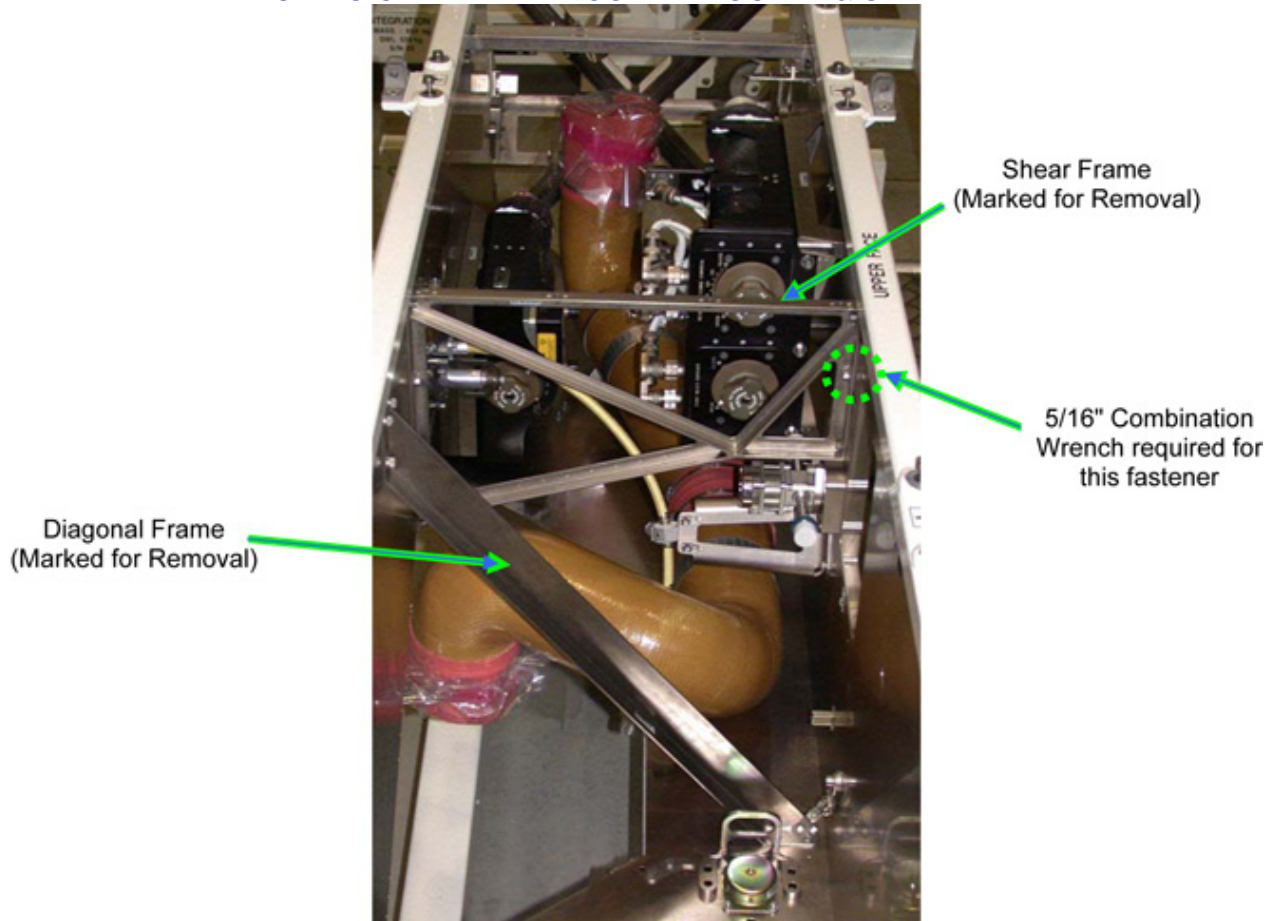

Figure 1. View of Overhead Alcove Diagonal and Shear Frame
- 2.1 Remove Overhead Alcove Diagonal Frame, fasteners (eight) (Ratchet, 1/4" Drive; 4" Ext; 10" Ext; 3/16" Hex Head). Refer to Figure 1. Temporarily stow Diagonal Frame.
- 2.2 Remove Overhead Alcove Shear Frame, fasteners (seven) (Ratchet, 1/4" Drive; 5/16" Socket). If required: (2" Ext or 5/16" Combination Wrench) Refer to Figure 1. Temporarily stow Shear Frame.